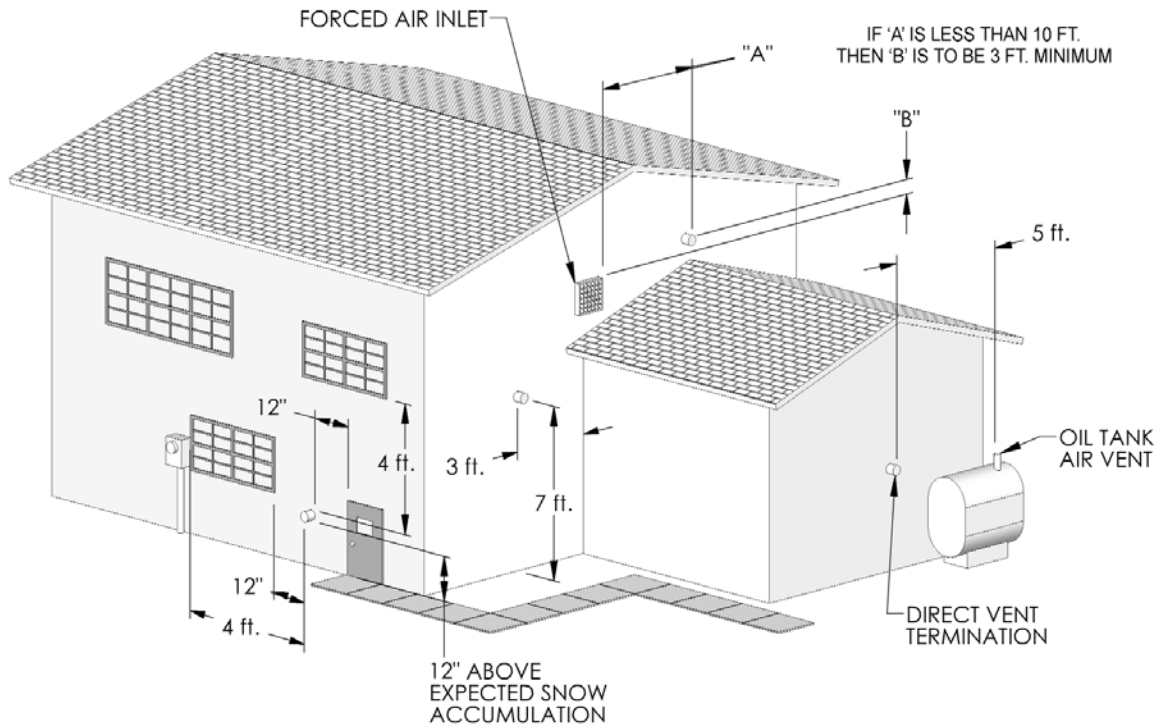

Figure 4.2: Location of Exit Terminals of Mechanical Draft and Direct-Venting Systems
- g. See Figure 4.2 for an illustration of clearances for location of exit terminals for direct-vent, sidewall venting systems.